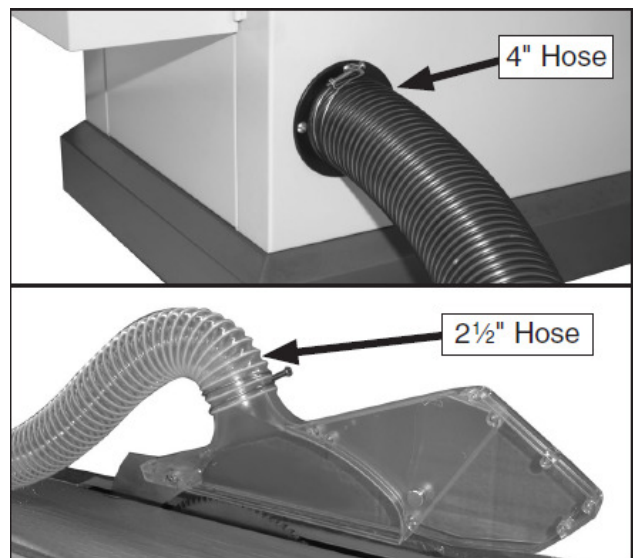

Fig. 28 & 29
- Secure a 4" dust hose to the dust port. (Fig. 28)